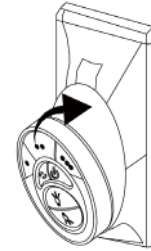

Fig. 25
Step 1. To place the transmitter in the wall plate, put the bottom end in first and then press the top into the wall plate. The transmitter is now held in the wall plate and will function from here. (Fig.25)